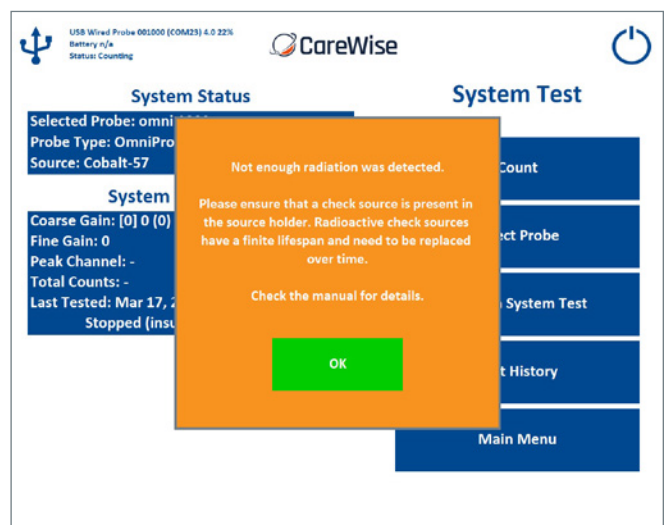

Figure 40 – Not Enough Radiation Detected Error
**Not Enough Radiation Detected Error** – [Figure 40] This error will appear if the probe does not detect enough radiation to complete the System Test [Section 2.4-7]. Ensure that the probe is fully inside the check source holder and that the source disc is less than two years old. Reattempt System Test.